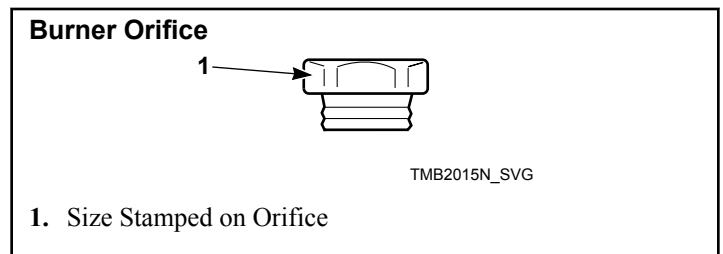

Figure 17
3. Install the new, correct burner orifice(s). Refer to *Figure 17* and *Table 15* . Torque each to 9 – 10 Nm.
4. Reinstall orifice holder assembly to gas valve, making certain burner orifice(s) are in line with burner tube opening. Refer to *Figure 17* .